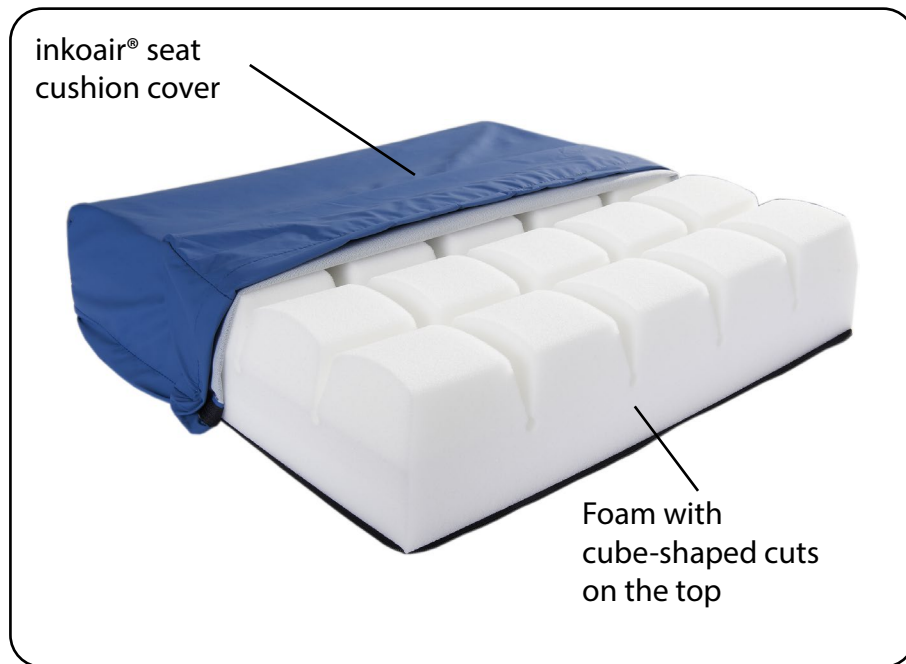
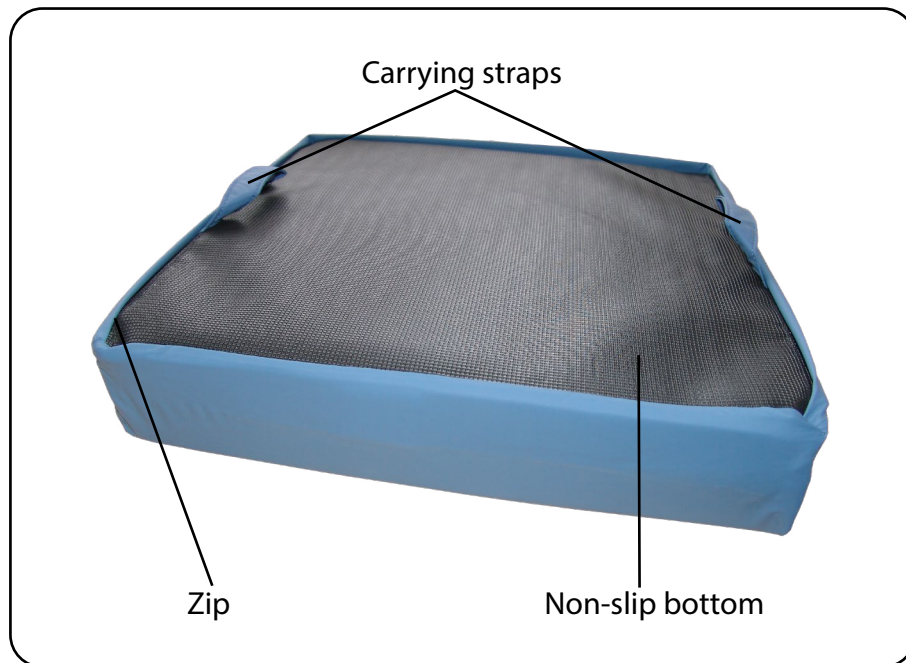
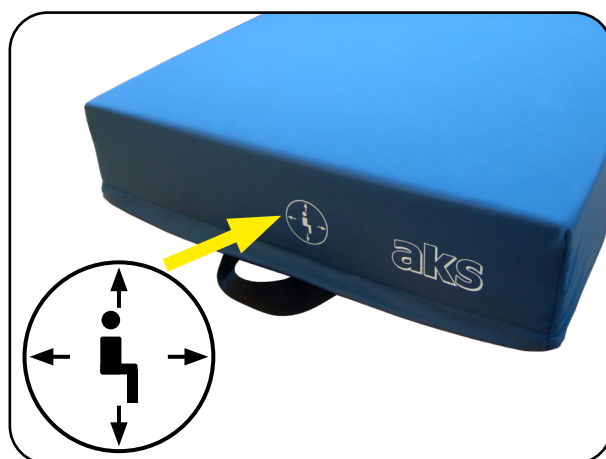

Fig. 5.01 - Top
Fig. 5.02 - Bottom
Fig. 6.01 - Marking on inkoair® seat cushion cover
4. If the product is covered with an inkoair® seat cushion cover, the blue side is the top side (Fig. 5.01). The front of the seat cushion must be placed on the front of the seat and can be identified by the fact that it is the side of the seat cushion cover on which there is no zip. In addition, a symbol indicates the correct orientation of the seat cushion in relation to the patient (Fig. 6.01).
- The non-slip cover side is the bottom and must be placed on the bottom of the seat cushion (Fig. 5.02).
- The carrying straps on the seat cushion cover must be on either side of the front of the seat cushion (Fig. 5.02 and Fig. 6.01).